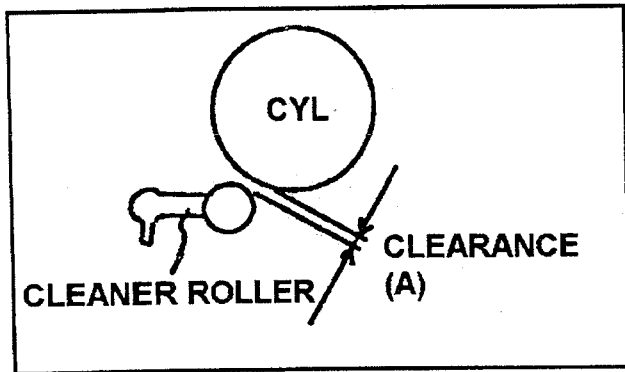

Fig. M22
1. Observe the clearance (A) between Cleaner Roller and Cylinder Unit as shown in Figure M22. And make sure that it is within 1.0 to 1.2mm.
2. If not, loosen the 2 screws (B) and adjust the position of Cleaner Base Plate by moving to arrow direction (A ↔ A) with the Eccentric Driver so that the clearance (A) is within specification. And tighten the 2 screws (B).